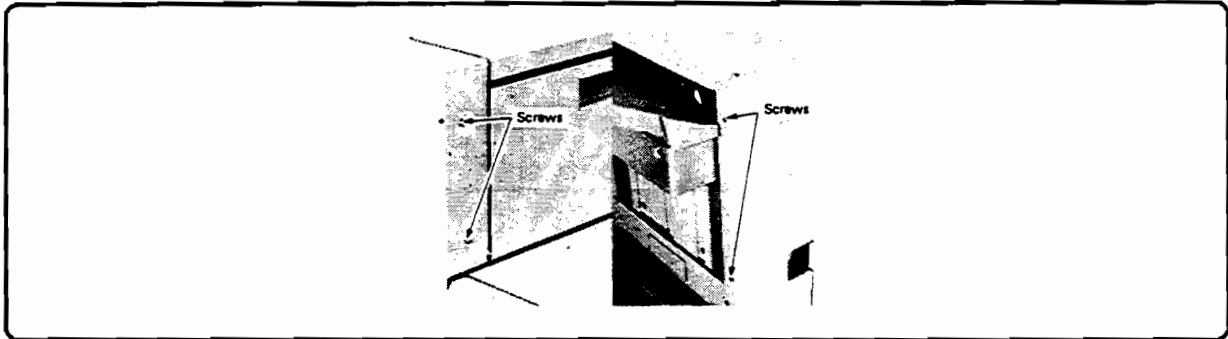

Figure 6-113. Stacker Front Cover Removal
1. Remove the front cover mounting screws (four) and pull the front cover forward to remove it (Figure 6-113).